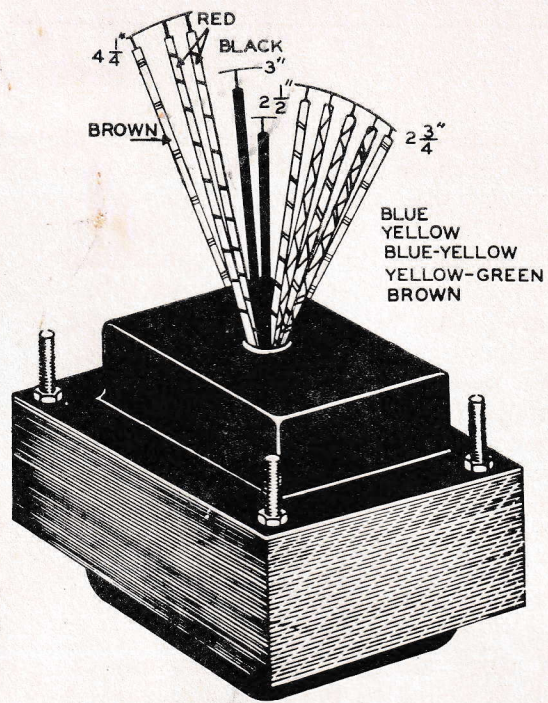

Figure 2
- (✓) Locate the power transformer (#54-109) and refer to Figure 2. Measuring straight out from the transformer bottom shell, cut the two red leads and one of the brown leads to 4-1/4". Trim approximately 5/16" of the insulation off the ends.